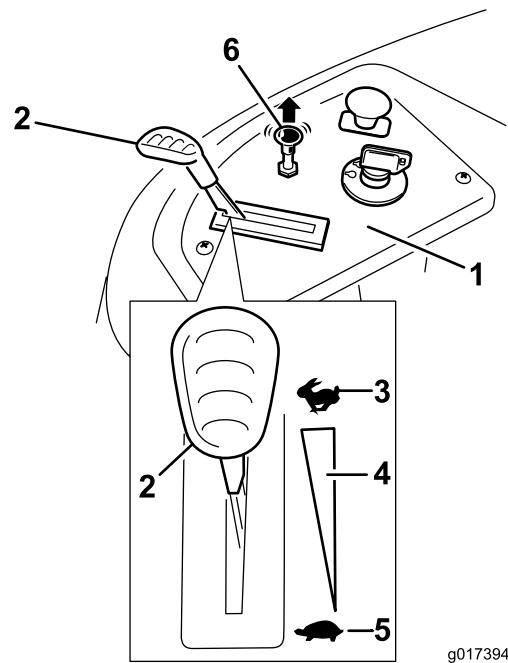

Figure 14
3. Pull up on the Choke control before starting a cold engine (Figure 14).
2. Move the throttle lever to between the Fast position (Figure 14).